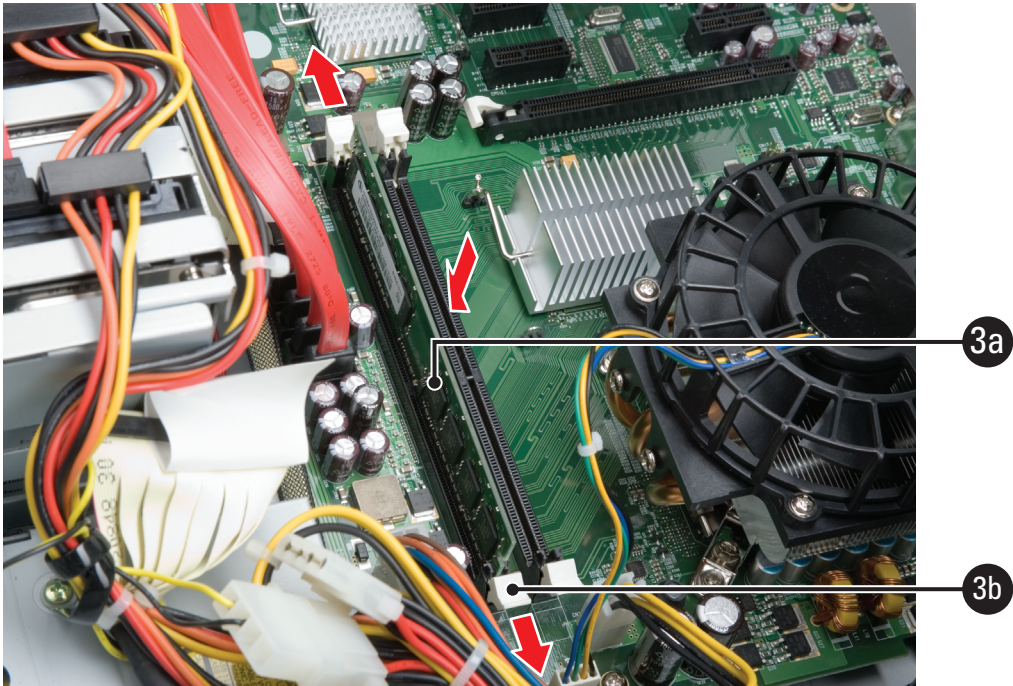

Figure 8. DIMM Module and DIMM Socket Alignment
- a. Align the DIMM module with the socket so that the notch in the module lines up properly with the break in the DIMM socket. Refer to Figure 8.
- b. Make sure that the white retaining clips are not in the locked position by pressing outward and down on each clip. Refer to Figure 8.